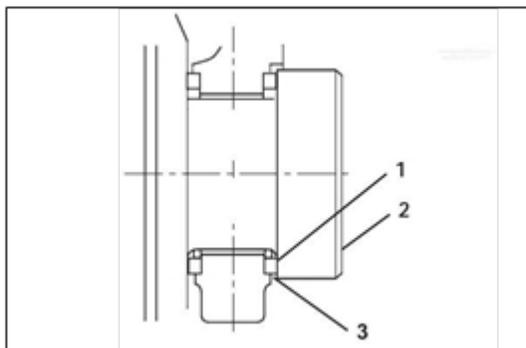

Figure 114.
**METHOD B:** Use a feeler gauge to measure the clearance (Figure 114, item 3) between the thrust bearing (Figure 114, item 1) and crankshaft (Figure 114, item 2). Record the measurement. See Thrust Bearing specifications for the service limit.